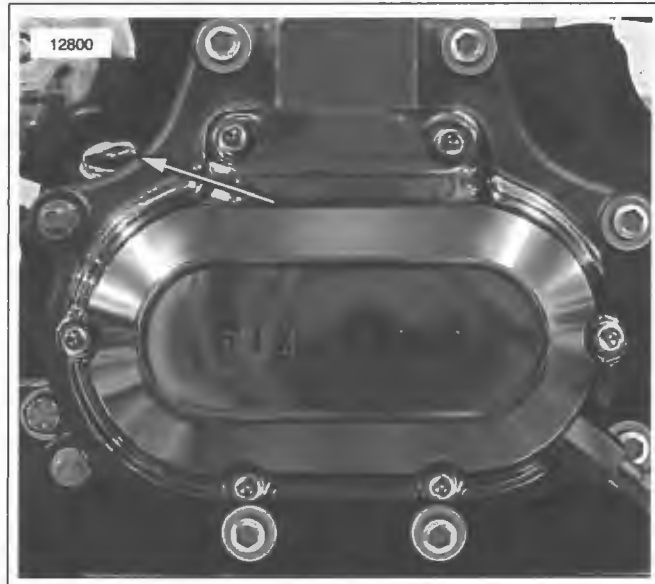

Figure 1-29. Transmission Lubricant Check/Fill
1. See Figure 1-29. Remove transmission filler plug.